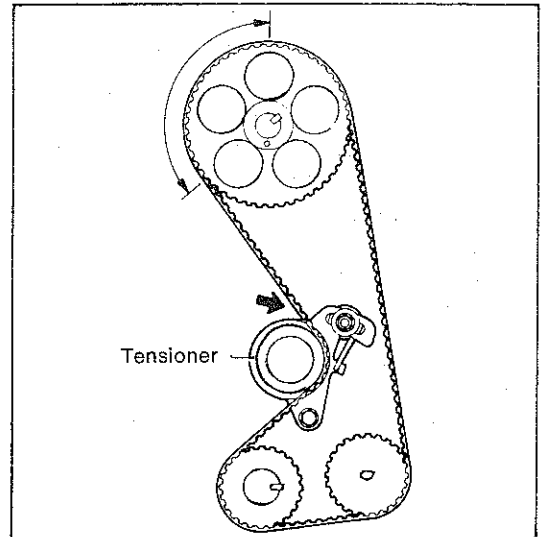

Fig. 53—Tensioning drive belt
(5) Noting the previously marked direction of rotation, install the timing belt by fitting it to the crankshaft sprocket, oil pump and camshaft sprocket in that order, ensuring there is no "slack" on the tension side of the belt.
(6) Loosen the tensioner mounting bolt and nut and allow the tensioner alone to tension the belt. Check to ensure the belt is fully meshed with the sprockets especially around the camshaft sprocket. If the belt is loose on the sprocket, push the tensioner in the direction of the arrow (Fig. 53) until belt mesh is achieved.
(7) Tighten the tensioner mounting nut and then the bolt in that order.
(8) Temporarily install the crankshaft pulley, to prevent the belt from coming off, rotate the crankshaft clockwise one complete turn to settle the belt.
(9) Loosen the tensioner bolt and nut, thus allowing the tensioner to set itself, then tighten the nut and bolt, in that order, to the specified torque.